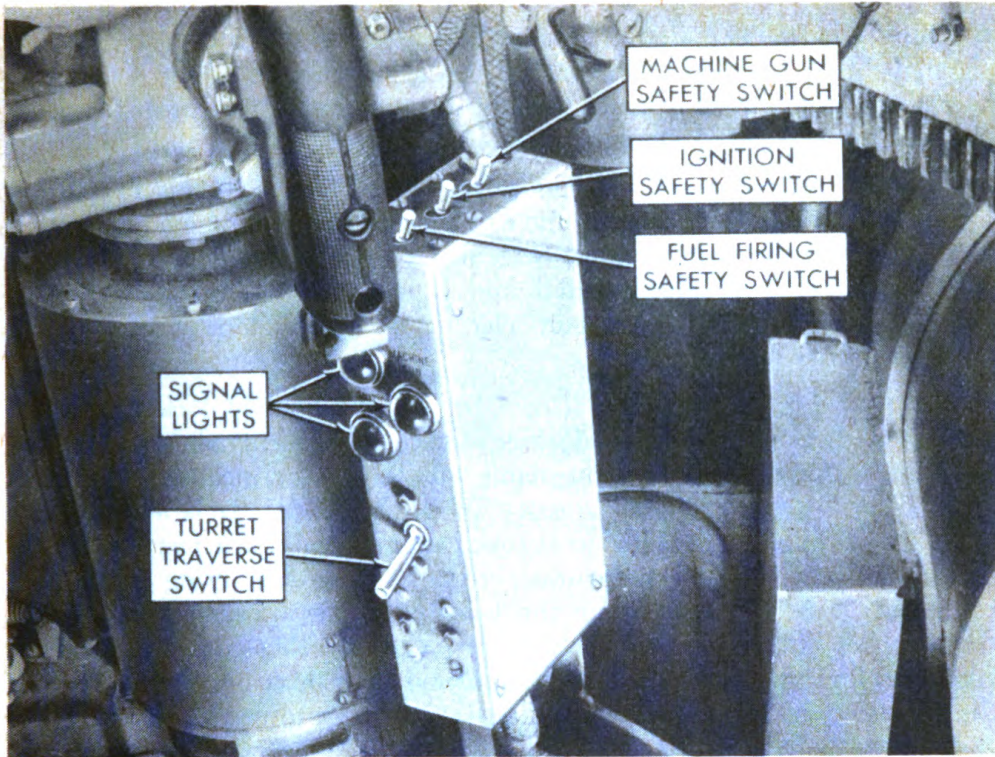
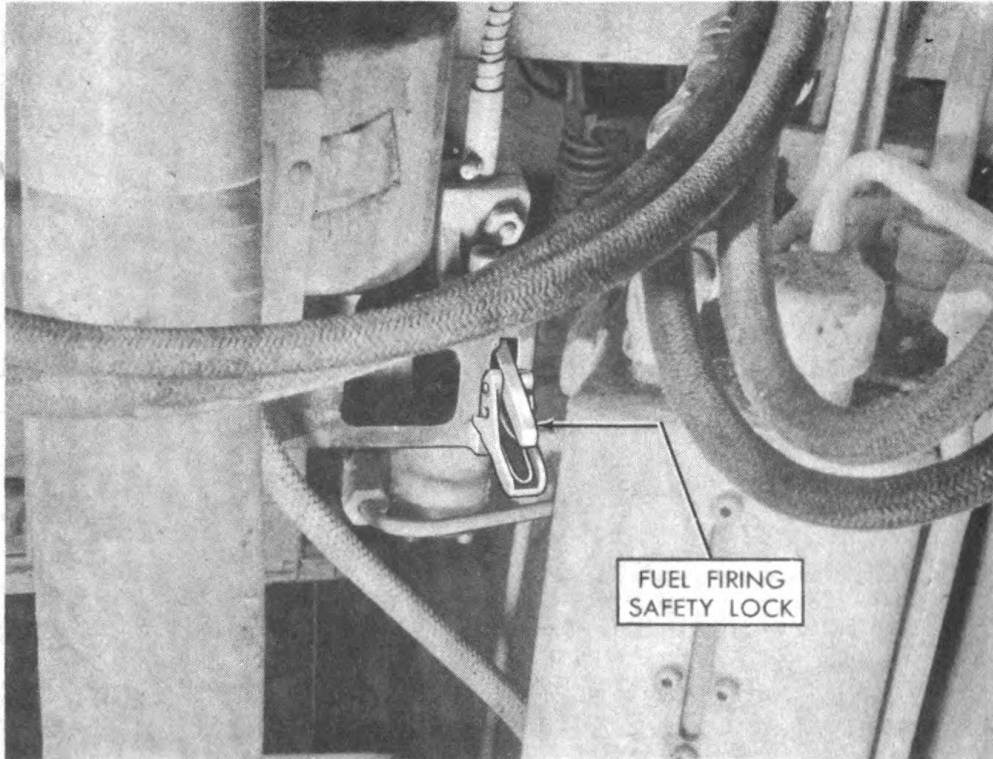

Figure 5—Gun safety switches and turret traverse switch.
Figure 7—Fuel firing safety lock.
(1) *Ignition safety switch* (fig. 5). The ignition safety switch is a toggle switch. It is located on top of the special toggle switch box (turret master switch box) in front of the gunner. When ignition safety switch is
(3) *Cal. .30 machine gun electrical firing safety switch* (fig. 5). The cal. .30 machine gun electrical firing safety switch (machine gun safety switch) is located on top of the special toggle switch box (turret master switch box) and is adjacent to the ignition safety switch (fig. 5). When
(5) *Fuel firing safety lock* (fig. 7). This mechanical lock consists of a lever with a manual spring locking device. It prevents accidental firing of flame thrower fuel from the flame gun, either by means of the main fuel firing button or the emergency fuel firing pedal. It is a removable part of the pilot valve solenoid bracket assembly which is fastened to the basket wall in front of the gunner (fig. 7). The fuel firing safety lock is in the "safe" position when the lever is in the uppermost position in the bracket slot. To release lock, first squeeze together the spring locking pad and lever with fingers of left hand and then push down to bottom of bracket slot, releasing spring handle. Return lever to original position for locking in "safe" position.
(6) *Fuel firing safety switch* (fig. 5). The fuel firing safety switch is
(10) *Turret traverse control switch* (fig. 5). The turret is traversed by power either electrically or hydraulically in the same manner as turrets of unmodified medium tanks. Emergency manual traverse control is identical with the standard control provided with either of the types of traversing mechanism.
b. Check to be sure the ignition, fuel firing, and machine gun safety switch signal lights operate. Then make sure that ignition, fuel firing, and machine gun safety switches are "off" (red signal lights out) (fig. 5) and that the mechanical fuel firing safety lock is in the "safe" position to prevent accidental main fuel discharge or firing of flame thrower (fig. 7).